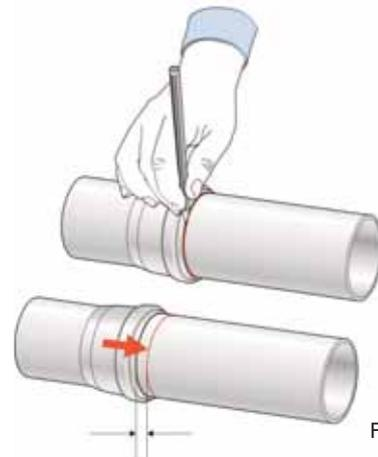

Fig. 3
4) Insert the pipe up to the abutment of the socket; then slide it out 10 mm (Fig.3).